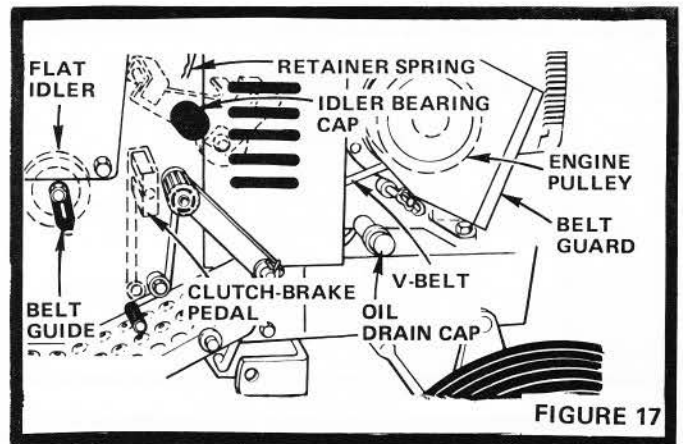

FIGURE 17
- Hold Nut on inside of Flat Idler and loosen Flat Idler Bolt (Fig. 17).
- Drain Oil with Engine warm. Unscrew Oil Drain Cap (Fig. 17) and catch Oil in a suitable container. Replace Cap.
- Idler Bearings (Fig. 17).
- Remove Spark Plugs and Belt Guard and turn Engine Pulley (Fig. 17) clockwise by hand until 21^oBTC mark on gear cover aligns with mark on flywheel. Turn another 1/4 turn to ensure points are fully open.